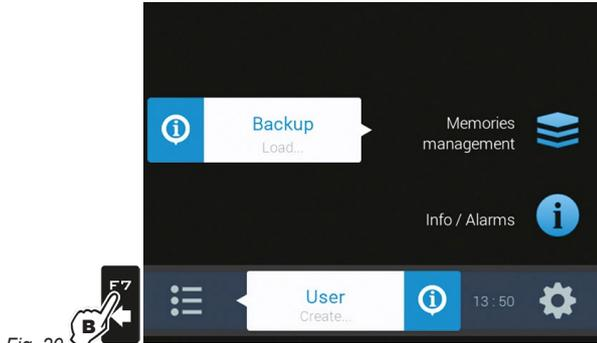
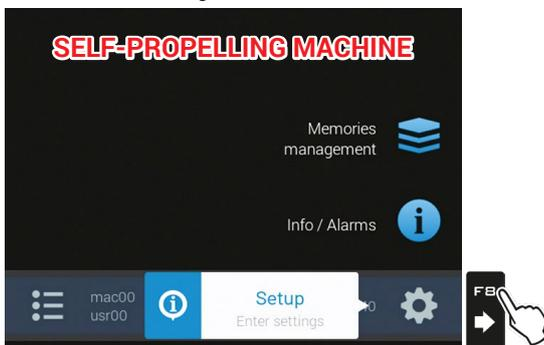
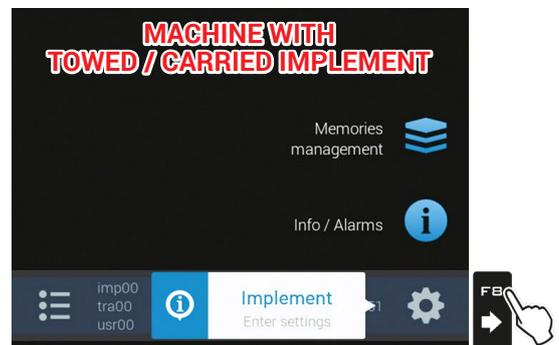

Fig. 20
Fig. 22
Fig. 23
If you have a configuration file (Backup), correctly saved on a pen-drive / SD card, press **F4** (A in Fig. 20) and follow the steps specified in par. 10.4.2. IN ALL OTHER CASES, PRESS **F7** (B): SAVE USER AND MACHINE CONFIGURATION; THEN START GUIDED SETUP BY PRESSING KEY **F8** (Fig. 22 o Fig. 23).